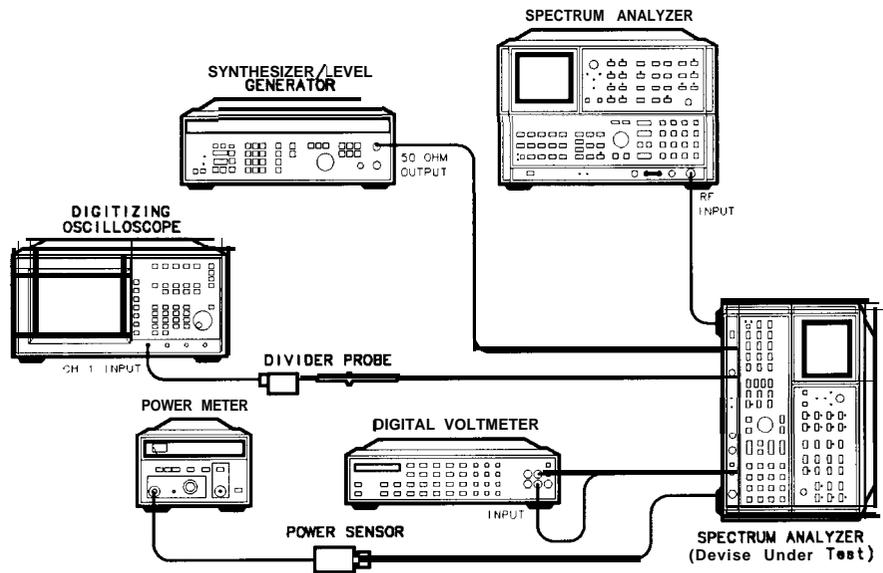
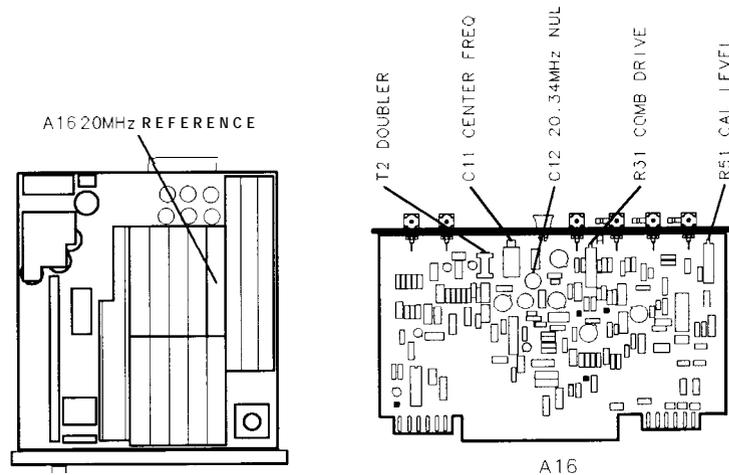

Figure 3-56. 20 MHz Reference Adjustments Setup
Figure 3-57. Location of 20 MHz Reference Adjustments
1. Position instrument on right side as shown in Figure 3-56 and remove bottom cover. Remove A16 20 MHz Reference and install on extenders. See Figure 3-57 for the location of A16 components.
7. Connect DVM to A16TP1 and ground to A22 TP12. Adjust A16 COMB DRIVE A16R31 for DVM indication of > + 0.1 V dc. Disconnect DVM. (If DVM remains connected, it may load circuit.) See Figure 3-57 for location of adjustment.